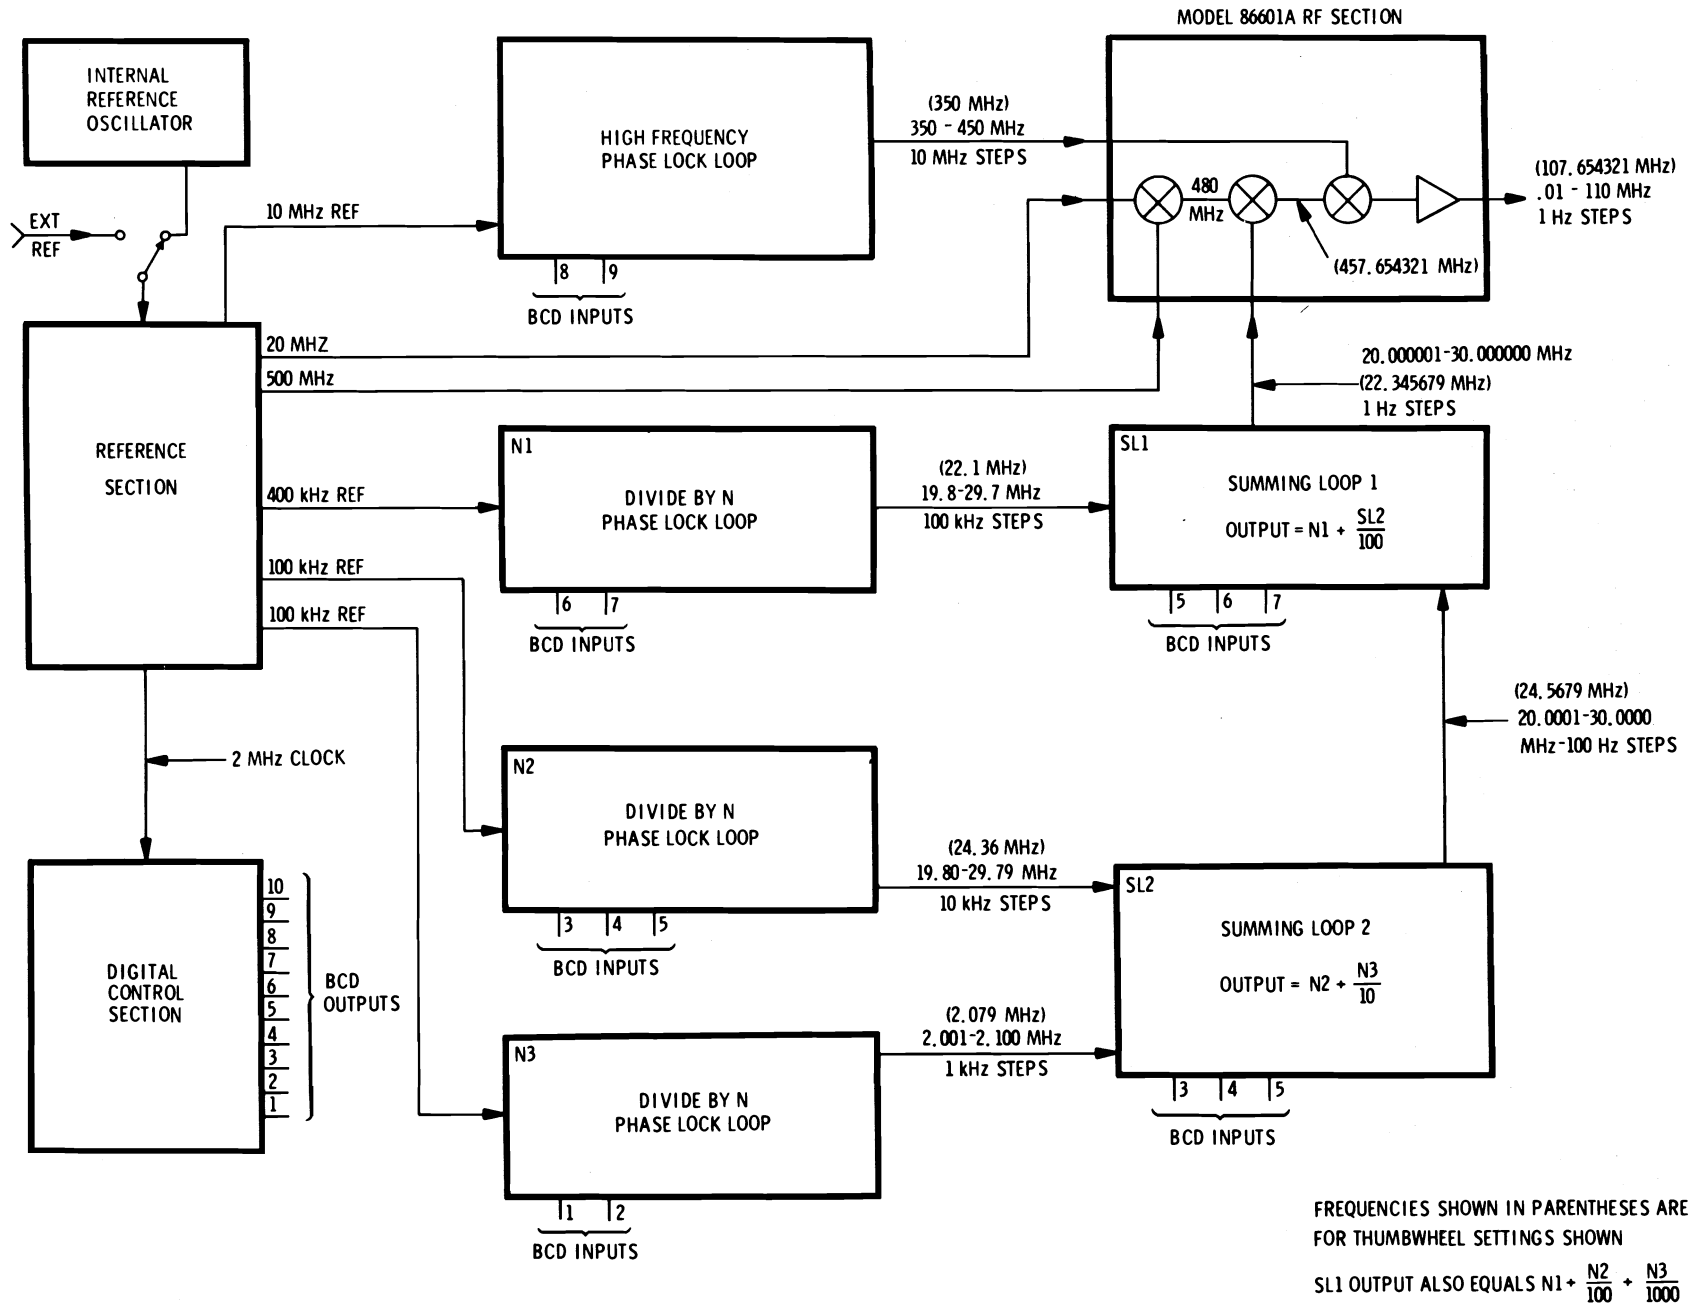

Figure 8-1. Model 8660B Simplified Block Diagram
8-4. Figure 8-1, Simplified Block Diagram, and the following discussion illustrates the basic principles of operation of the Model 8660B. More detailed information about principles of operation for the phase locked loops and the Digital Control Unit appears on Service Sheets 1 and 18 respectively. In addition, detailed information to the circuit level is provided on individual service sheets.
**8-23. RF Section.** An RF Section plug-in is required to produce a useable rf output. Figure 8-1 shows a simplified block diagram of the Model 8660B with a Model 86601A RF Section used in the system. All plug-in sections are covered by separate manuals.